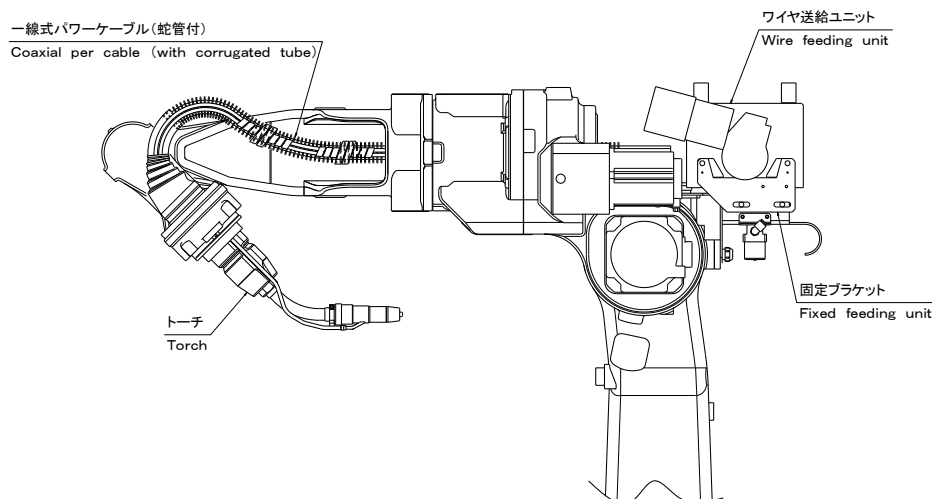

Fig.4.7 Adjustment of the coaxial power cable
- (1) Mount a torch, wire feeding unit (fixing bracket), and coaxial power cable.
- (2) Operate the 5th axis to the maximum (soft limit) toward the manipulator's inner side as shown in Fig.4.7.
- (3) Operate the 6th axis to the maximum (soft limit). (Either in the + or – side.)
- (4) Adjust the fixing bracket in the above posture so that the coaxial power cable does not collide with the cover (see Fig.4.7).